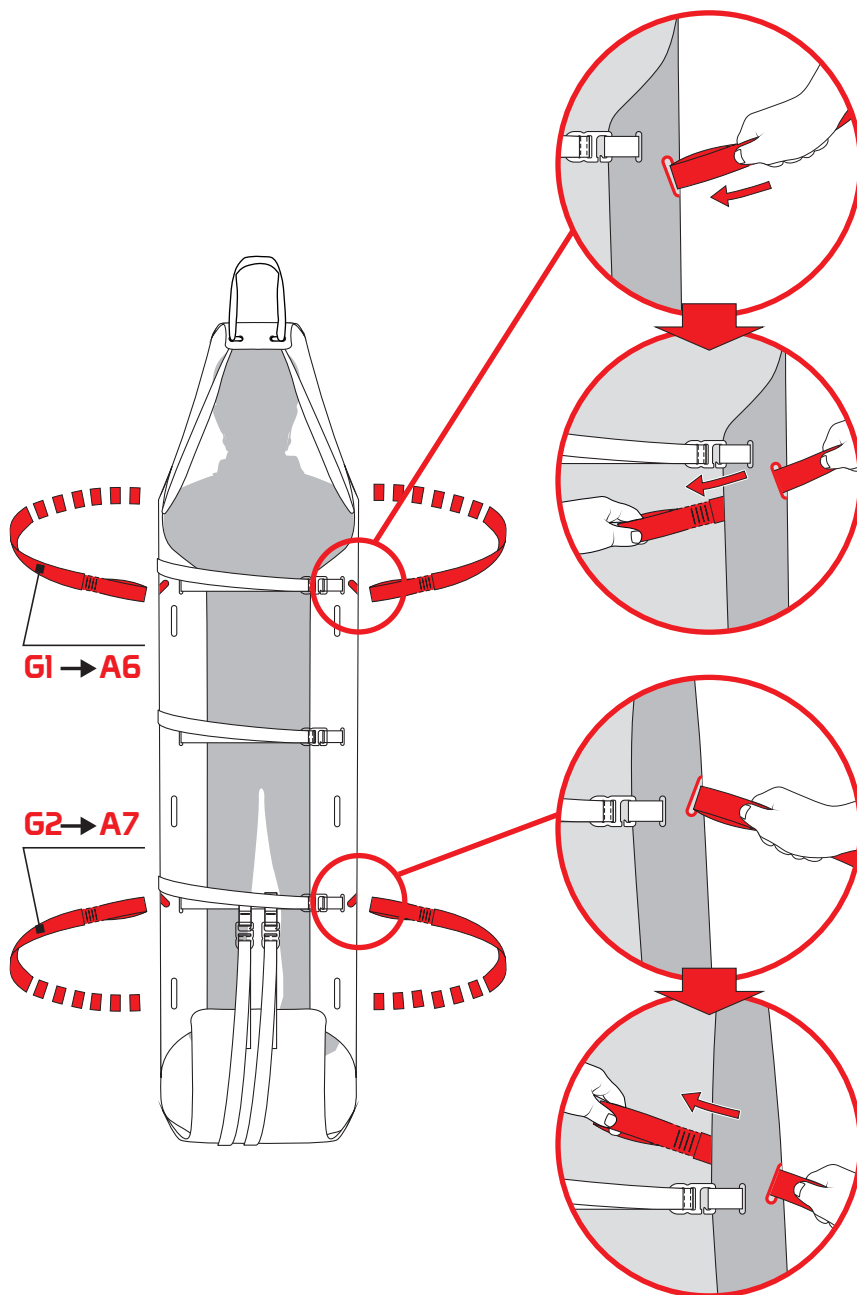

Fig.13
b) lifting/lowering and/or transportation using the lifting kit (G): insert the short hanging kit (G1) in the eyelets A6 and the long hanging kit (G2) in the eyelets A7 on the support surface (fig. 13).